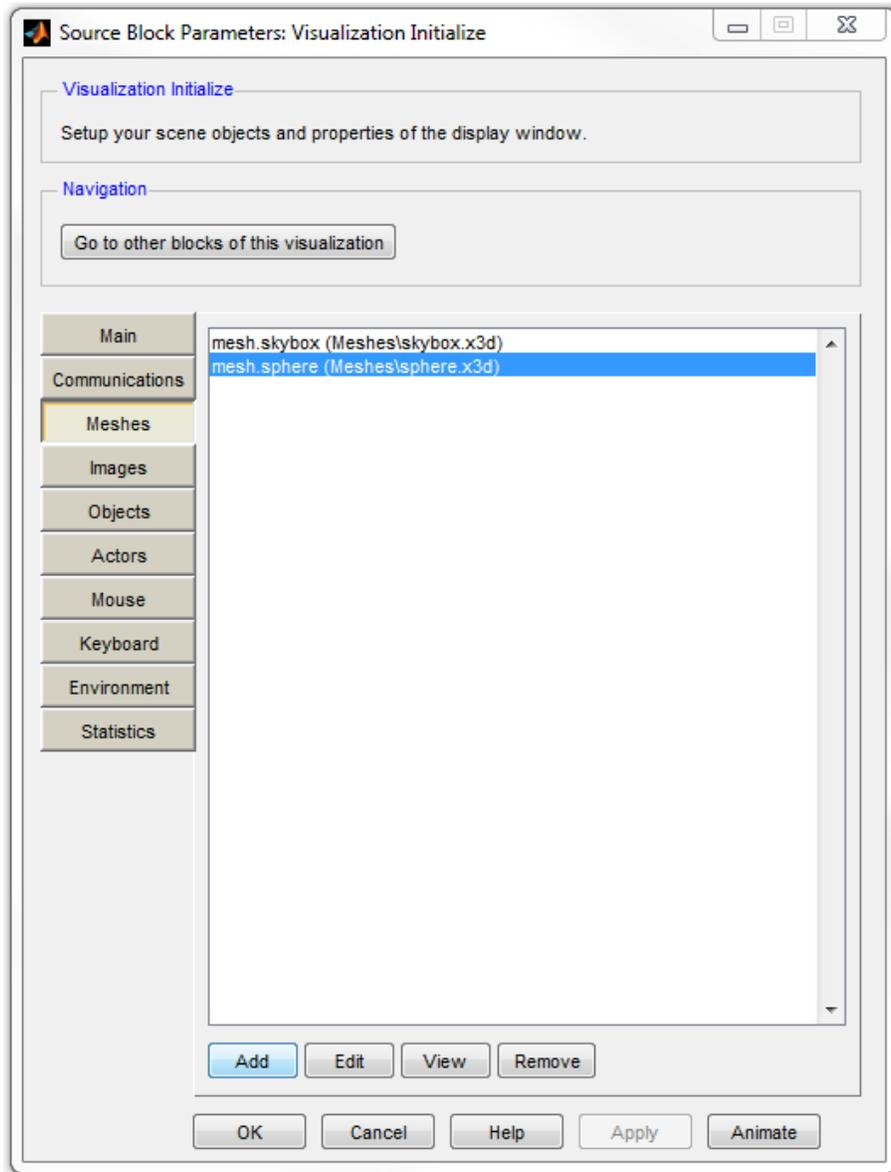

Figure 10.2: Mesh list in Visualization Parameters
2. Click on the *Meshes* button to open the *Mesh* parameter window shown in Figure 10.2.